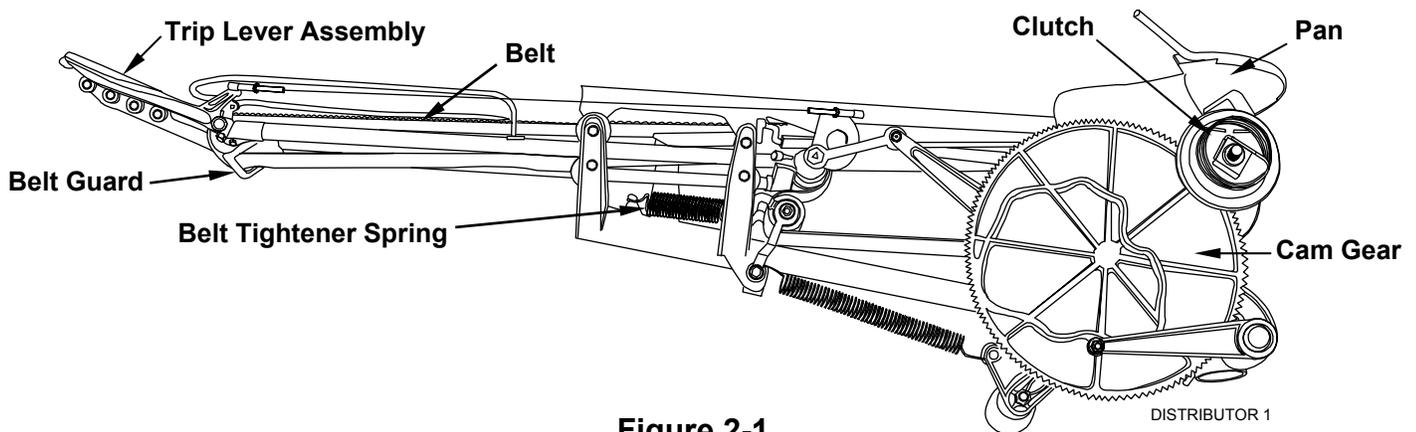

Figure 2-1
The distributor transfers pins from the pin elevator wheel to the bin assembly. The distributor is driven by the back end motor through an adjustable clutch to its various positions. A large nylon cam gear (see Figure 2-1) serves a dual purpose:
1. Remove the belt tightener spring (see Figure 2-1).